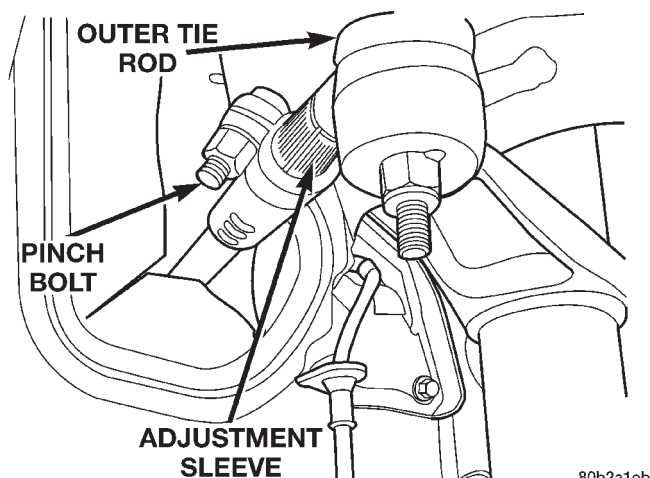

Fig. 26 Tie Rod Adjustment Sleeve Pinch Bolt
- (2) Remove tire and wheel assembly.
- (3) Loosen the pinch bolt (Fig. 26) at the outer to inner tie rod adjustment sleeve.